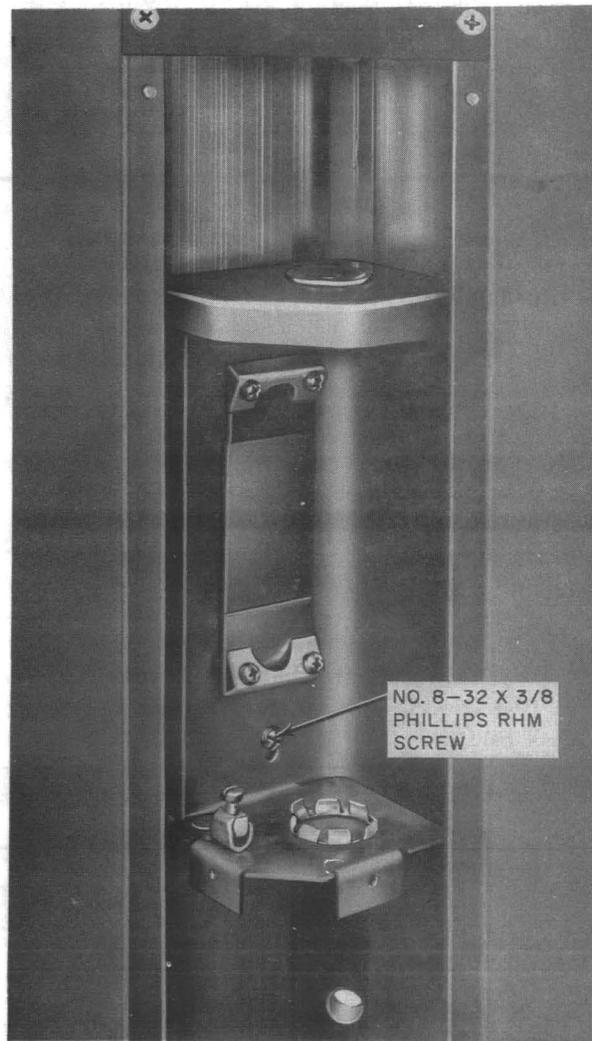

Fig. 22—Installation of Circuit Breaker Box in Lower Backboard
3.25 Install the KS-19426, List 17 circuit breaker box (if applicable) per Fig. 22. Have local electrician install circuit breakers.